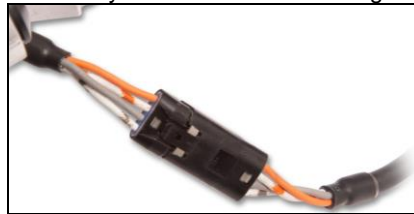

Figure 4
6. Connect the front throttle body to the rear throttle body on both sides of the engine. These connectors are detailed in **Figure 4**.